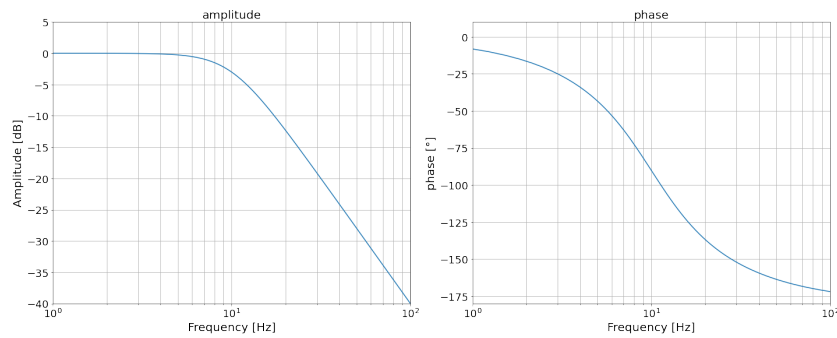

Figure 51: Bodeplot Butterworth lowpass.
E.g.: Cut-off frequency is 10Hz. The bodeplot is shown in the figure 51 below.